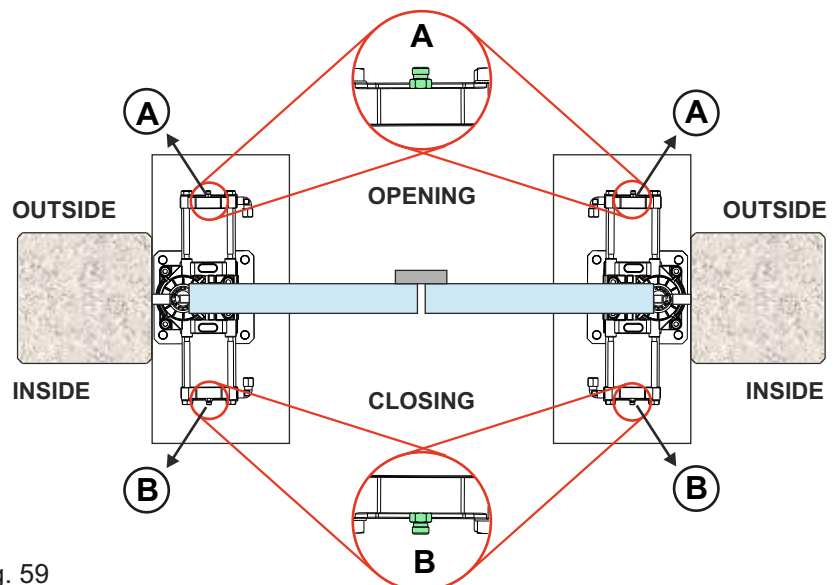

Fig. 59
- 2 - While the gate is moving, loosen the bleed screw «A» (Fig. 59);
- 6 - While the gate is moving, loosen the bleed screw «B» (Fig. 59);